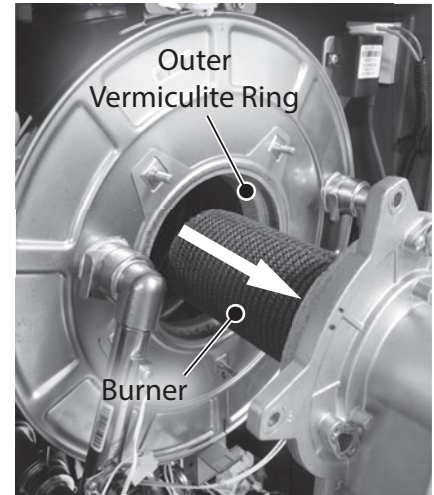

Figure 115 - Remove burner door assembly
- 17** Remove the burner door assembly from the heat exchanger. Carefully pull the assembly out such that the burner and outer vermiculite ring are not damaged as shown in Figure 115.